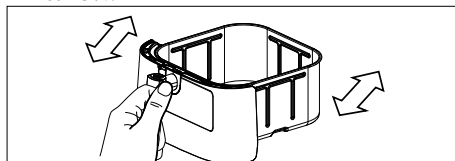
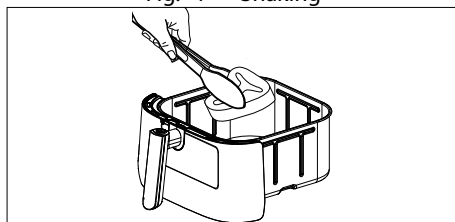

Fig. 4 – Shaking
Fig. 5 – Turning
- ▶ To achieve optimal cooking results, shake the frying basket [7] (**see Fig. 4**) or turn the food (**see Fig. 5**) during the cooking time, especially when food is overlapping. Halfway through the cooking time, acoustic signals are emitted in selected programmes to remind you to redistribute the food.